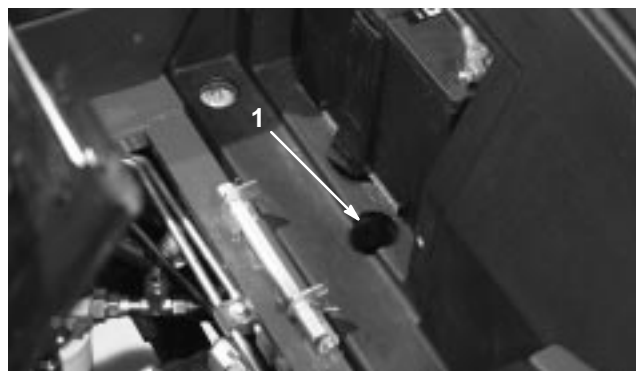

Figure 27
1. Raise the seat and remove the battery cover. The bypass valve is located in front of the battery (Fig. 27).